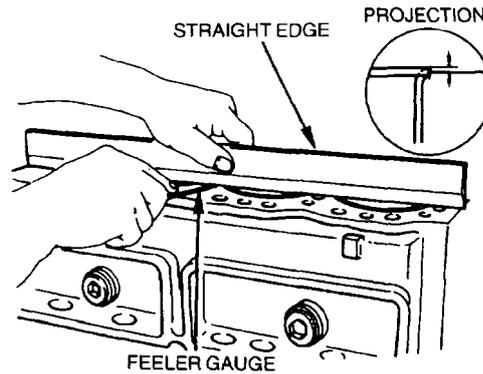

Figure 37 Checking the Cylinder Liner Protrusion
- e.** After installing the cylinder liners, verify that each liner is protruding 0.03 to 0.10 mm (0.0012 to 0.0039 in) above the engine block deck and that the variation in the amount of protrusion between the cylinder liners is less than 0.03 mm (0.0012 in). Use a straight edge and a feeler gauge to check the amount of protrusion (Figure 37).